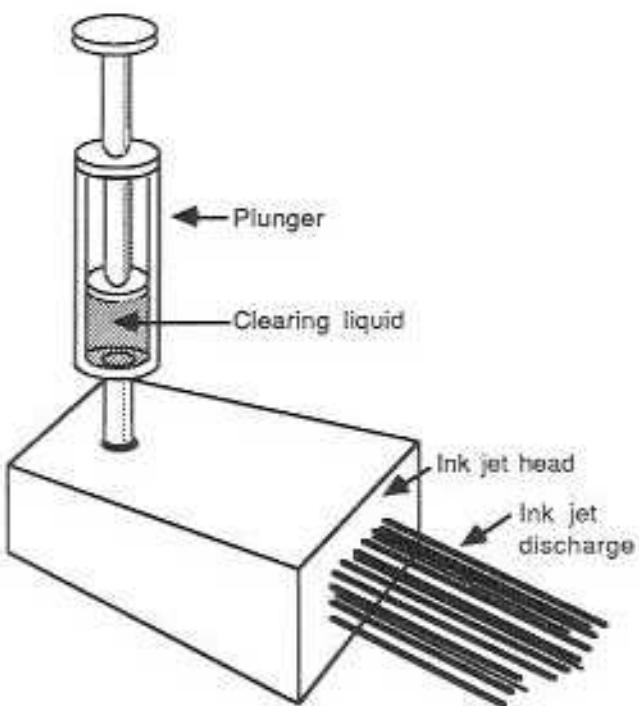

Fig. 9-9. Clearing the ink jets with a plunger.
3. If the system does not have a purge cycle, or if the purge cycle is unsuccessful, you may need to use a plunger to force liquid through the jets (Fig. 9-9). In most cases, the manufacturer will be able to supply you with a plunger that fits your computer and a special liquid to clear the jets. You should not use water or solvents for this purpose; they can (and almost always do) damage the jets. For more information about your specific computer, contact the manufacturer.